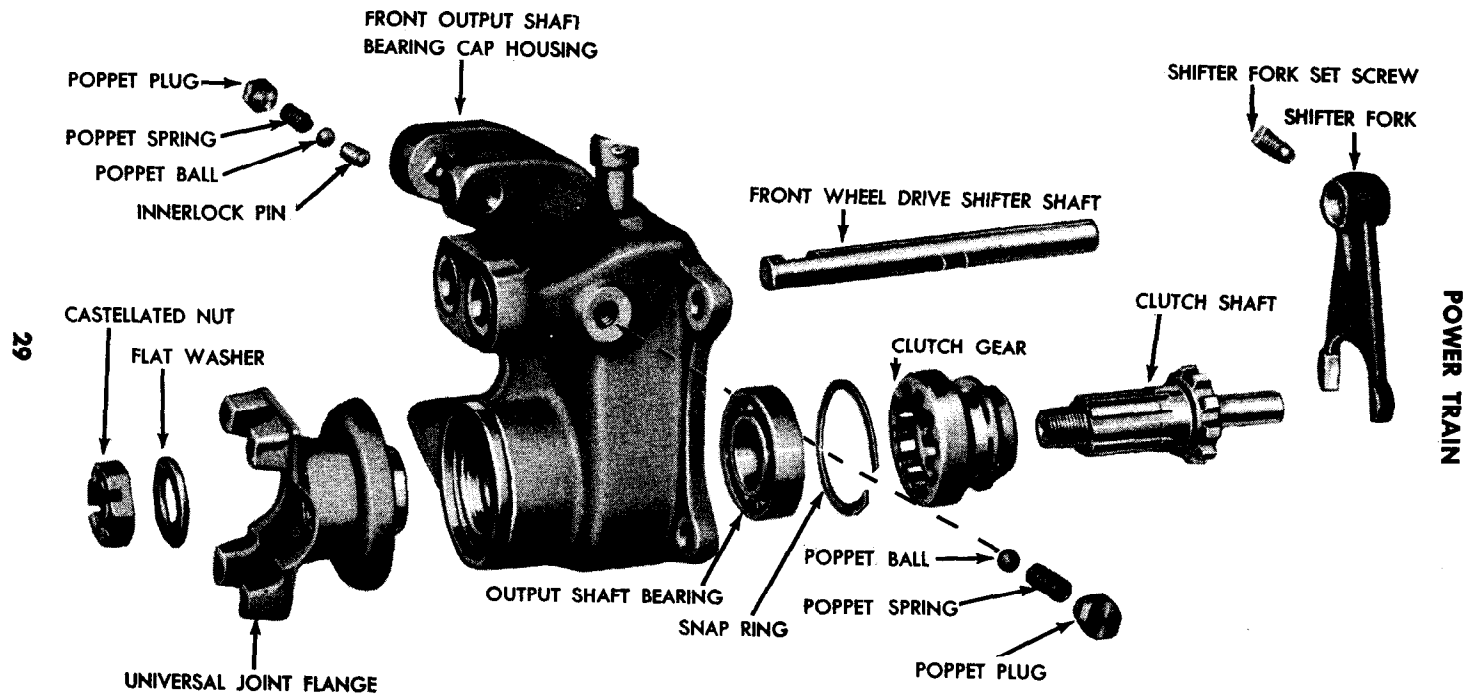

Figure 21 — Front Output Shaft Bearing Cap — Exploded View
f. **Disassemble Front Output Shaft Bearing Cap** (fig. 21). Remove the set screw that secures the shifter fork to the front wheel drive shifter shaft. Slide the shifter shaft out of the shifter fork. Remove the shifter fork and clutch gear from the bearing cap. Remove the snap ring that secures the output shaft bearing and remove the output shaft bearing from the bearing cap.
(2) **FRONT OUTPUT SHAFT BEARING CAP ASSEMBLY** (fig. 21).
(b) *Front Wheel Drive Shifter Shaft and Fork* (fig. 21). Replace the front wheel drive shifter shaft, if bent or damaged. Replace the fork if it has stripped set screw threads, if it is cracked or has bent forks.
(c) *Clutch Shaft and Gear* (fig. 21). Replace the clutch shaft if the splines or gear teeth are chipped or worn, if the gear has any teeth missing. Check the diameter of the pilot end of the clutch shaft. If the diameter is less than 0.625 inch, replace the clutch shaft. Replace the clutch gear, if it is worn or has any broken teeth.
(d) *Output Shaft Bearing* (fig. 21). Ball bearings with loose or discolored balls or with pitted or cracked races must be replaced.
a. **Assemble the Front Output Shaft Bearing Cap** (fig. 21). Insert the bearing in the output shaft bearing cap. Install the snap ring that secures the bearing in the output shaft bearing cap. Insert the clutch shaft through the bearing from the inside of the output shaft bearing cap. Insert the front wheel drive shifter shaft in the output
d. **Install Front Output Shaft Bearing Cap to Transfer Case** (figs. 21 and 22). Place a new gasket in position on the transfer case. Install the interlock (fig. 21) in the interlock opening on the bearing cap. Slide the front output shaft bearing cap on the under drive shifter shaft, being careful not to damage the oil seal in the output shaft bearing cap. Install the five bolts that secure the front bearing cap to the transfer case. Install the poppet ball, poppet spring and poppet plug on both sides of the front bearing cap (fig. 21).